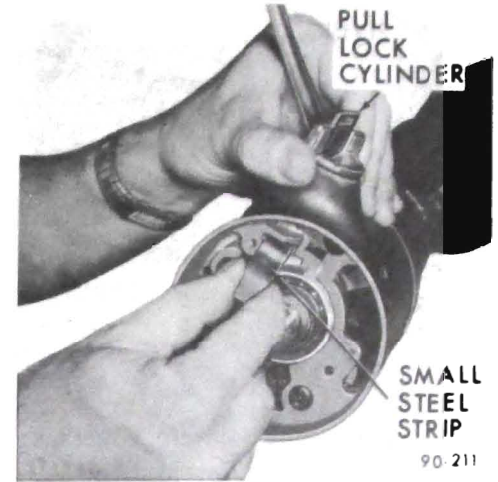

Figure 90-135 - Removing Ignition Lock Cylinder
12. Insert a thin tool (small screwdriver or knife blade) into the slot next to the switch mounting screw boss (right-hand slot) and depress spring latch at bottom of slot, which releases lock. Remove lock. See Figure 90-135.